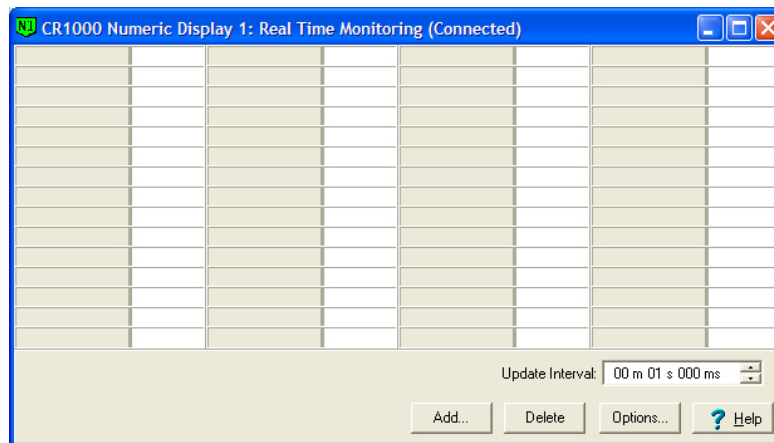
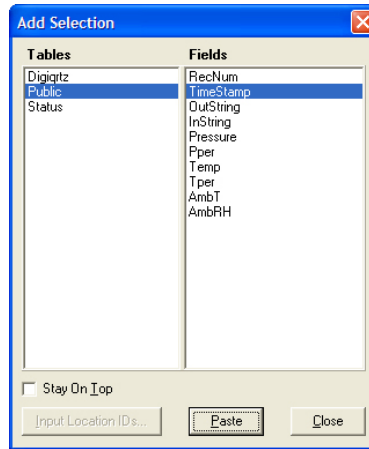
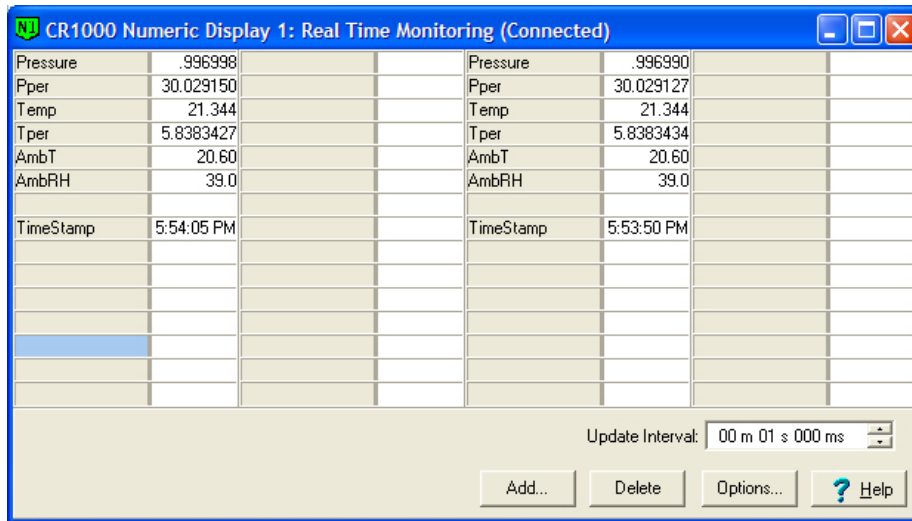

Figure 7. Program upload warning box
Figure 8. Tables and Parameters
Figure 9. Verifying data logger operation real-time
9. To verify that logger is reading data, click on the “Numeric 1...” button in the “Data Displays” group. This will open a window in Figure 7.
10. Add the parameters you would like to display in this window. Select a cell in the gray area in Figure 7. Click on the “Add” button. The window in Figure 8 will appear.
11. Figure 8 shows the tables and fields in each table. The public table will show all the public parameters defined as “Public” in your program as in Appendix-A and B. The “Digiqrztz” table shows the values of parameters logged most recently. To see how the program works, add parameters from the “Public” table and the “Digiqrztz” tables as in Figure 9. In Figure 9, the parameters on the left are public variable; the ones on the right are parameters from the “Digiqrztz” table defined in the program.